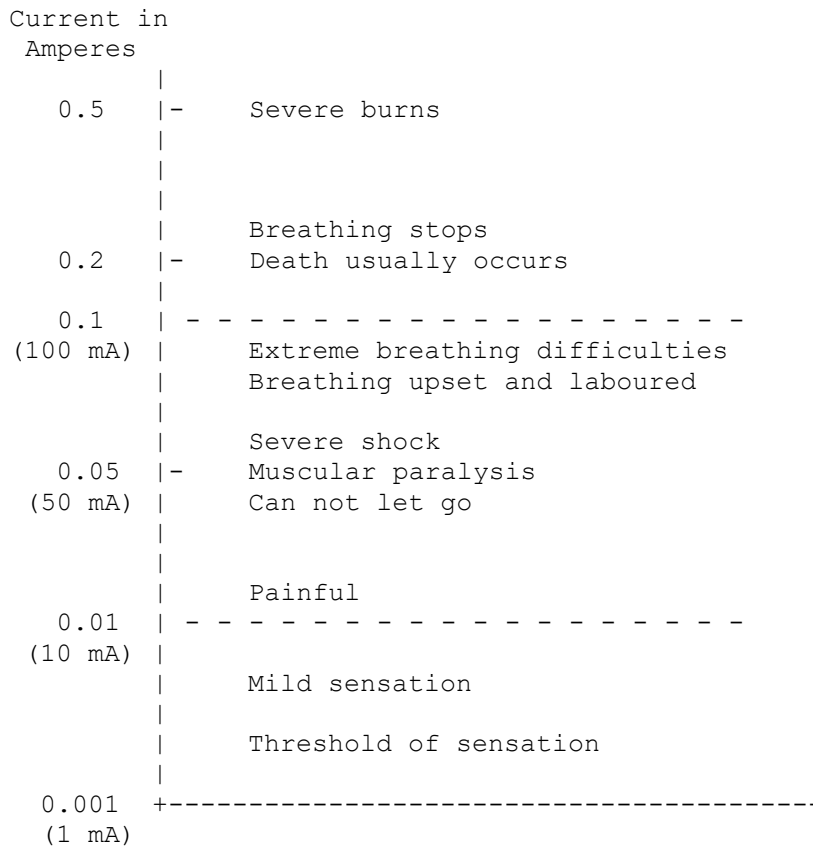

Figure 1 - General effects of electric shock
4. It is not possible to define precisely the effects of a given current on the body, but the general effects of alternating current are shown in Figure 1.